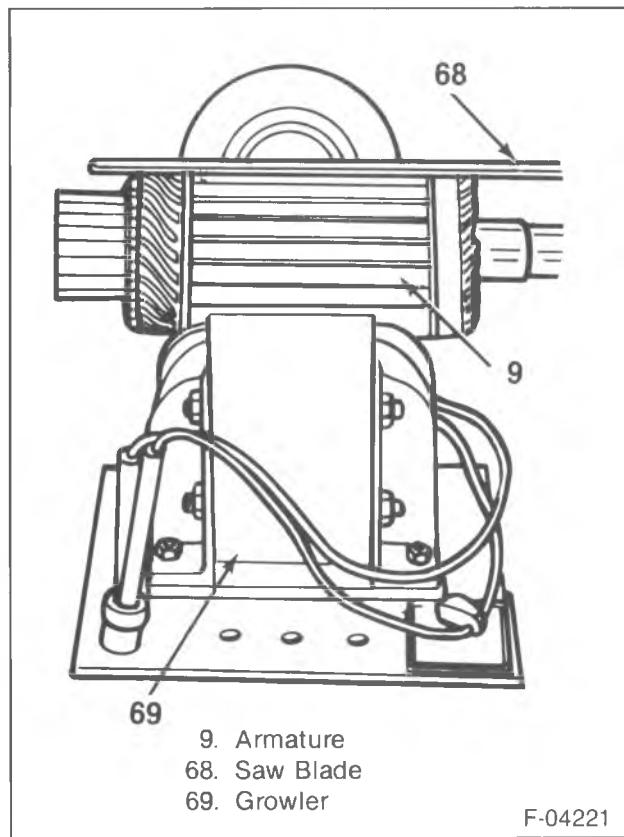

Figure 44—Testing the Armature for Short Circuits
3. Armature for short circuits (figure 44).